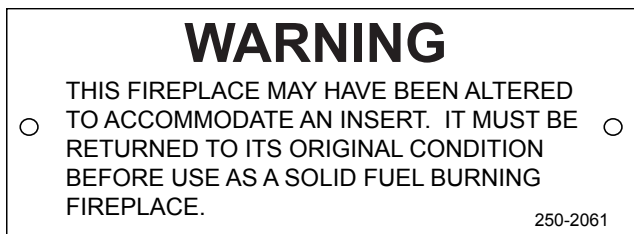

Figure 15.2
- The permanent metal warning label provided in the component pack must be attached to the back of the fireplace, with screws or nails, stating that the fireplace may have been altered to accommodate the insert, and must be returned to original condition for use as a conventional fireplace (**Figure 15.2**).